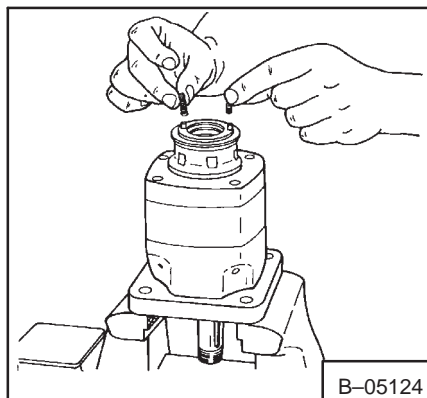

Fig. 3-41 Removing The Springs
9. Remove the two springs from the balance plate (Fig. 3-41).